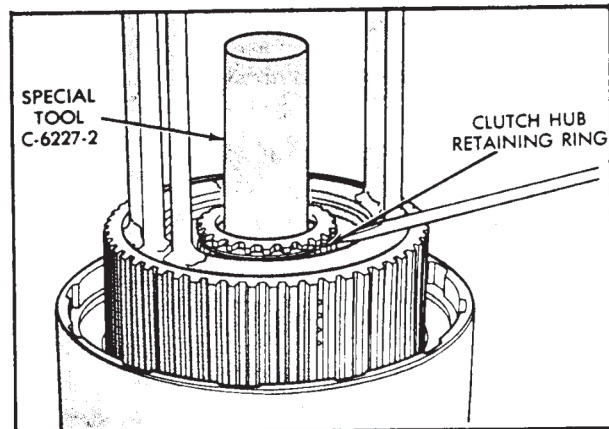

Figure 21
31. Install the clutch hub retaining ring, as shown in Figure 21, and **"Ensure"** that snap ring is fully seated in the snap ring groove.